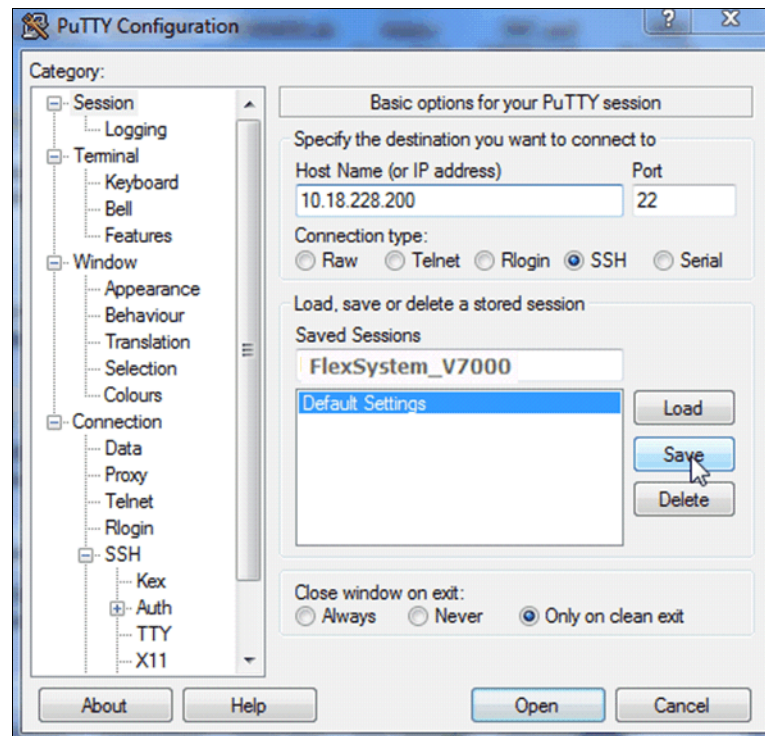

Figure A-14 Save Session
7. Click **Save** to save the new session (Figure A-14).